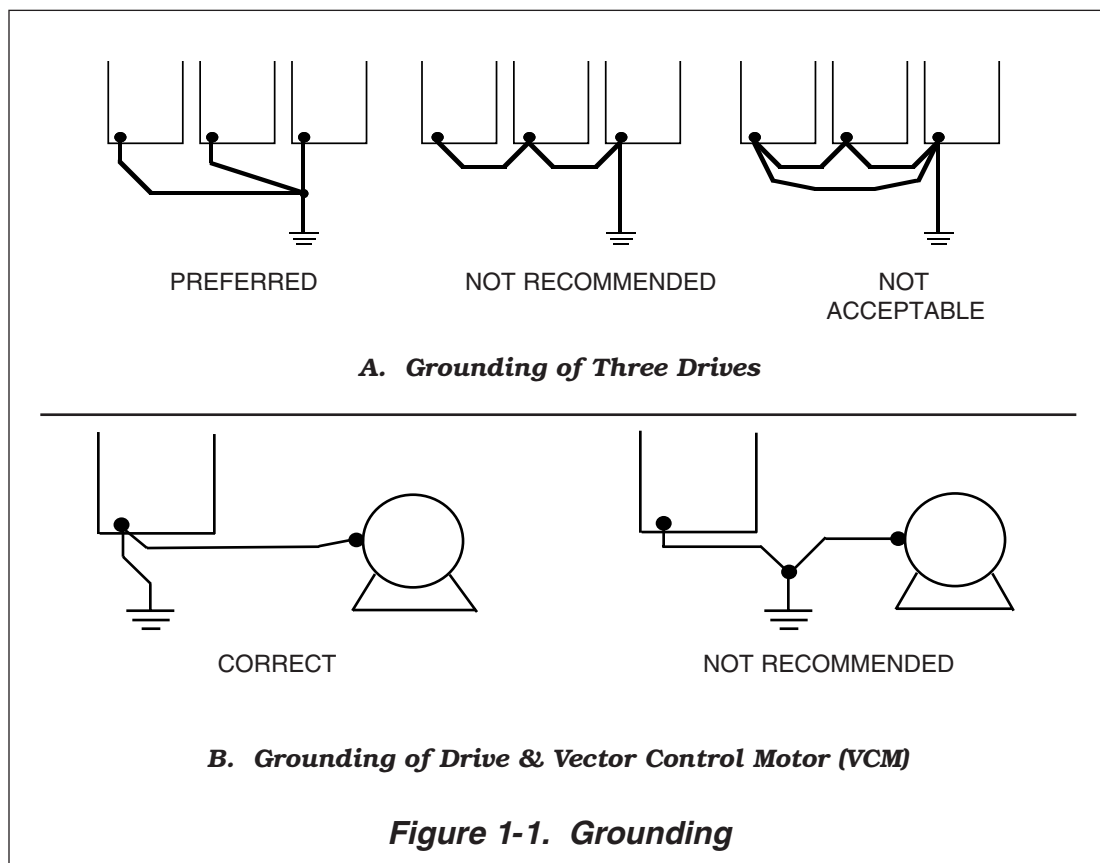

Figure 1-1. Grounding
- Where several drives are used, ground each directly to the ground point (see Figure 1-1). DO NOT FORM A LOOP WITH THE GROUND LEADS.